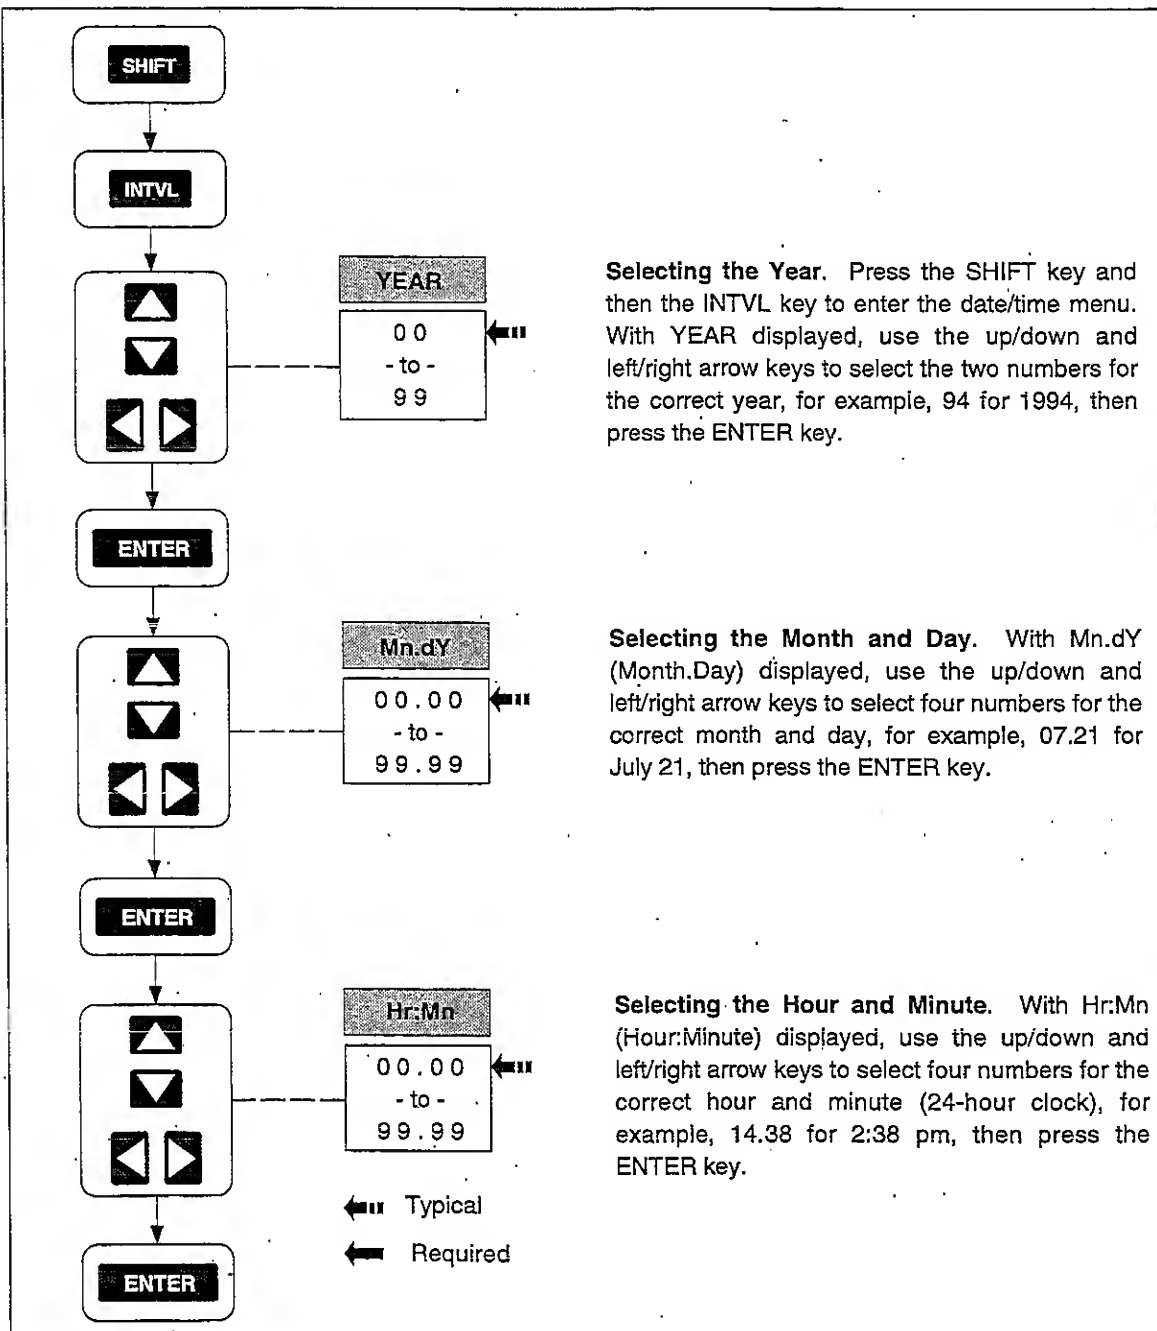

Figure 2-21. Setting Date and Time
- Setting Date and Time (Figure 2-21)
Perform the procedure in Figure 2-21 to set the instrument internal clock and calendar, which must be correct since measurements are tagged with this time and date. The built-in clock accuracy is a nominal one minute per month. Once set to the correct date and time, clock and calendar operation is automatic and no further action is required.